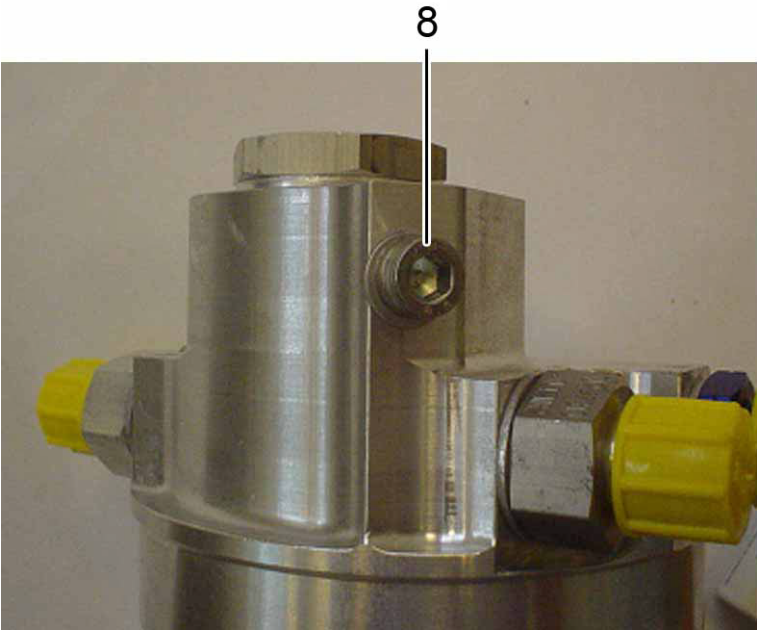

Fig. 28-9a Bleed screw in top lid
- (1) Install the fuel filter assembly in the aircraft. Tighten the hose clamps, and connect the fuel lines to the assembly. Ensure correct connection of the lines to the filter housing, as the fittings are the same size. All connections are clearly labelled on the top lid of the fuel filter assembly.
- (2) Bleed the fuel filter bowl by opening the allen head screw, opening the fuel selector valve and activating the auxiliary fuel feed pump until fuel drains from the opening. Replace and tighten the allen head screw, ensuring the crush washer is in place. See Fig. 28-9a.
- (3) Conduct a ground run after completing any other maintenance on the aircraft.